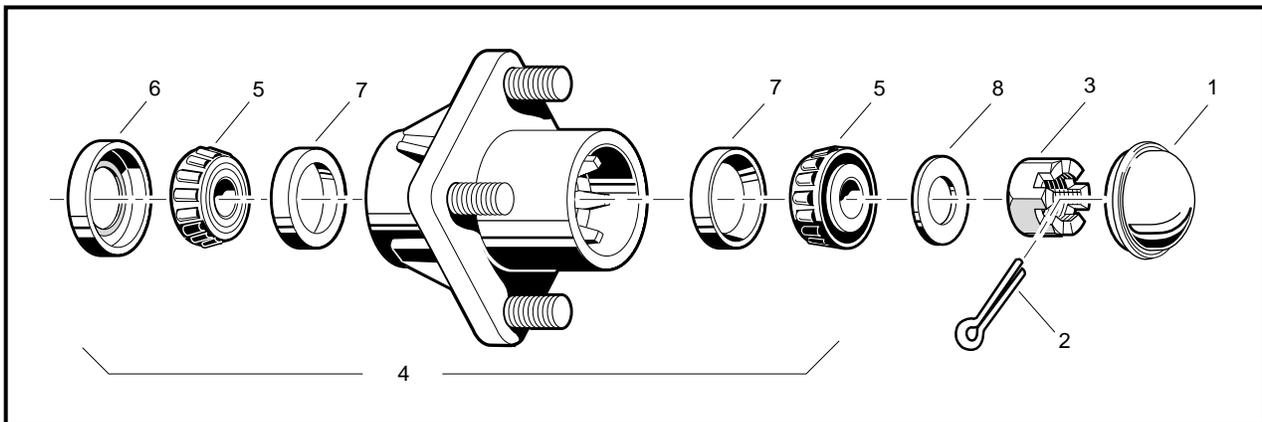

Figure 7-20 Wheel Hub Assembly
1. Raise the front of the vehicle and attempt to rock the wheel back and forth on the hub. If there is any observable rocking on the hub, tighten the axle nut (3) and test again for rocking. If rocking continues, repack or replace the wheel bearings (5) as required (**Figure 7-20, Page 7-18**).
- 2.1. Remove dust cover (1), cotter pin (2), axle nut (3), and flat washer (8) (**Figure 7-20, Page 7-18**).
- 2.2. Remove the hub assembly (4) from the axle (**Figure 7-20, Page 7-18**).
3. Remove the seal (6) and the bearings (5) from the hub (**Figure 7-20, Page 7-18**).
4. Inspect the bearing cups (7). If they are worn or pitted, remove the cups by inserting a drift punch from the opposite end of the hub and tapping lightly around them (**Figure 7-20, Page 7-18**).
6. Inspect surface of the spindle where the oil seal (6) seats. It should be clean and smooth.
1. Pack the wheel bearings (5) with wheel bearing grease or chassis lube. Make sure that the grease is forced between the rollers (**Figure 7-20, Page 7-18**).
2. If the bearing cups (7) were removed, press new ones in squarely against the stop in the hub.
4. Install the hub assembly (4) and flat washer (8) on the axle and start the axle nut (3).
5. Tighten the axle nut until the hub is hard to turn, then back the nut off until the hub turns freely. Install the cotter pin (2) (**Figure 7-20, Page 7-18**).
6. Install the dust cap (1) (**Figure 7-20, Page 7-18**).